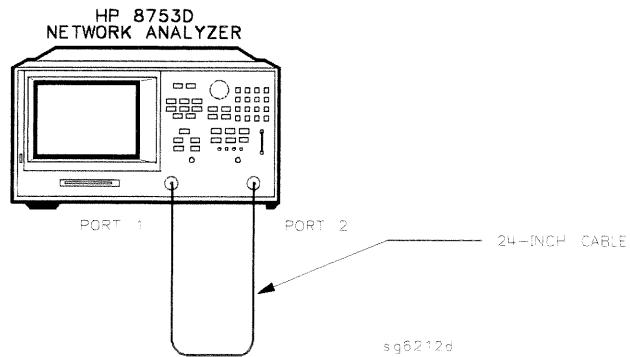

Figure 2-26. Test Port 1 Input Frequency Response Test Setup
25. When the analyzer displays the message POWER METER CALIBRATION SWEEP DONE, connect the equipment as shown as in Figure 2-26.